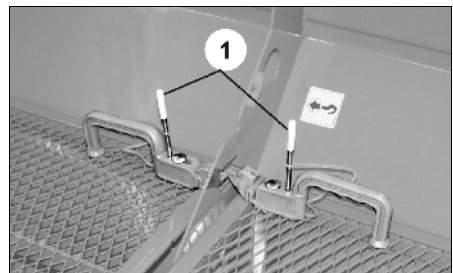

Fig. 16
- (Fig. 16/1) Parkposition (Standardposition)